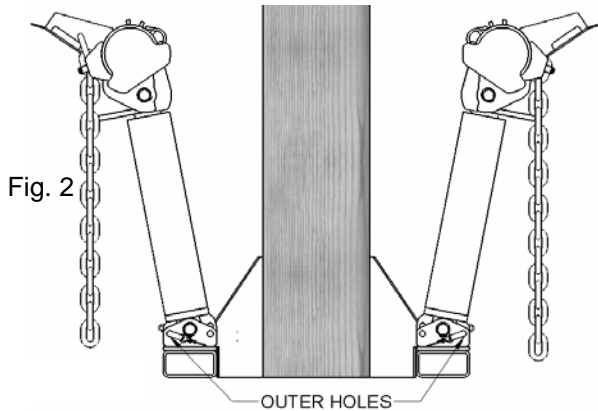

Fig. 2
3. Before positioning the pole puller around a pole, pin the cylinders using the outer holes with the cylinders and the heads leaning away from each other. See Fig. 2. The pole puller should be placed around the pole in the most level position possible, utilizing an overhead lifting device or forks with adequate rated capacity. The pole should be centered between the heads. The heads should be parallel. If one of the heads needs to be rotated, it may be necessary to extend the cylinder slightly to relieve internal friction.